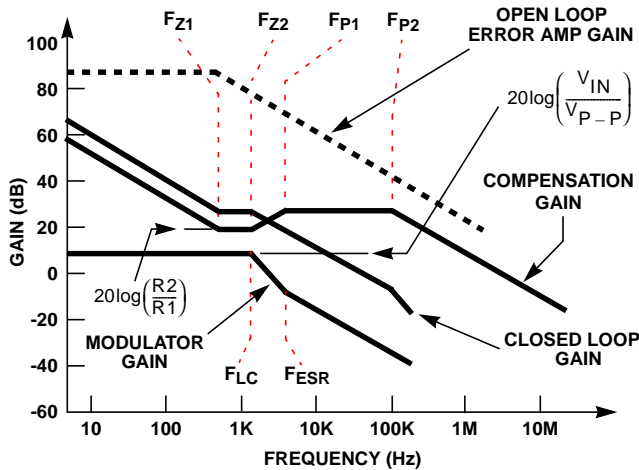

FIGURE 9. ASYMPTOTIC BODE PLOT OF CONVERTER GAIN
Figure 9 shows an asymptotic plot of the DC-DC converter's gain vs. frequency. The actual Modulator Gain has a high gain peak dependent on the quality factor (Q) of the output filter, which is not shown in Figure 9. Using the above guidelines should yield a Compensation Gain similar to the curve plotted. The open loop error amplifier gain bounds the compensation
gain. Check the compensation gain at  $F_{P2}$  with the capabilities of the error amplifier. The Closed Loop Gain is constructed on the log-log graph of Figure 9 by adding the Modulator Gain (in dB) to the Compensation Gain (in dB). This is equivalent to multiplying the modulator transfer function to the compensation transfer function and plotting the gain.